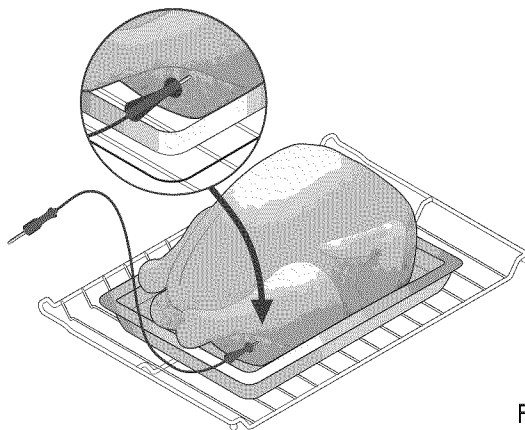

Fig. 1
- For whole poultry or turkey, insert the probe into the thickest part of the inner thigh, below the leg -*Fig. 1*-.
-*Fig. 1*-